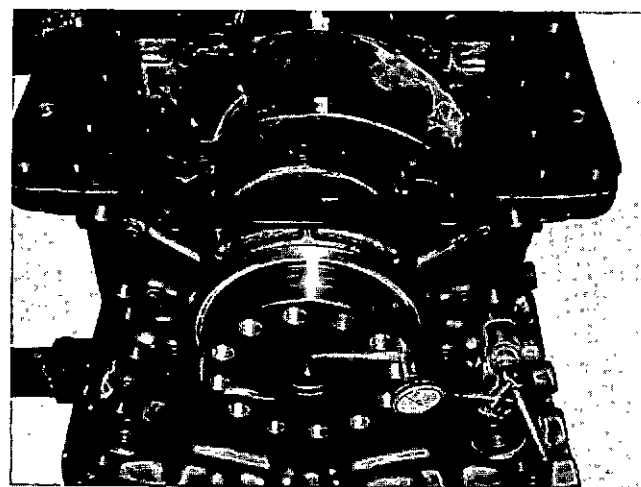

Fig. 14-1-6, V414215. Crankshaft end clearance check
14. Pry crankshaft toward rear of engine. The gauge should indicate 0.006 to 0.013 inch [0.1524 to 0.3302 mm] end clearance for a new engine, or an engine with new crankshaft and new bearings. Fig. 14-1-6.